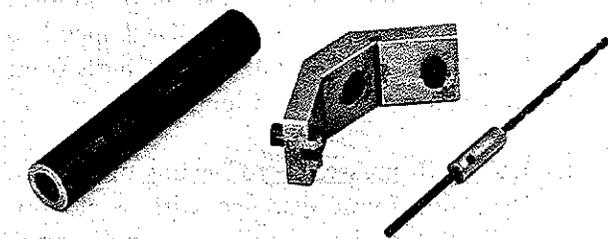

Figure 27. Drill Fixture.
- Drill fixture, Borroughs P/N 8094A. (See Figure 27)